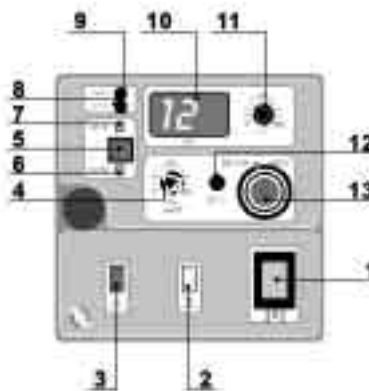

Fig. 26
10.4 - COMANDI POMPA PB-PH (Fig.26)